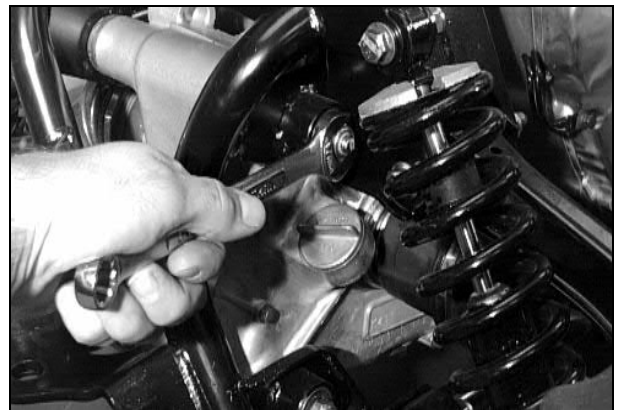

Fig. 30
34. Remove the two rear cap screws securing the engine to the sub-frame, (Fig. 30).